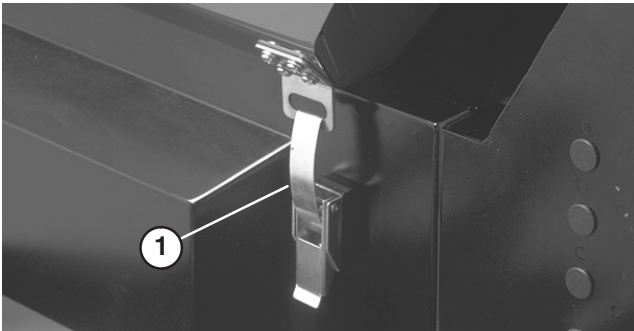

Figure 2
1. Park the machine on a level surface. Release the engine cover latches (Fig. 2).